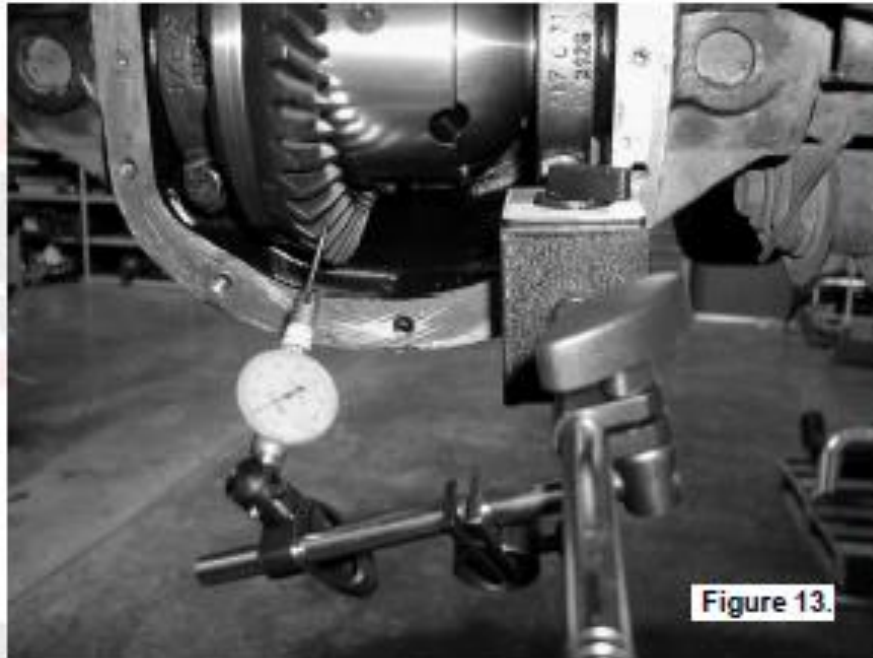

Figure 13.
- ☐ Set a depth indicator on one of the ring gear teeth as in Figure 13.